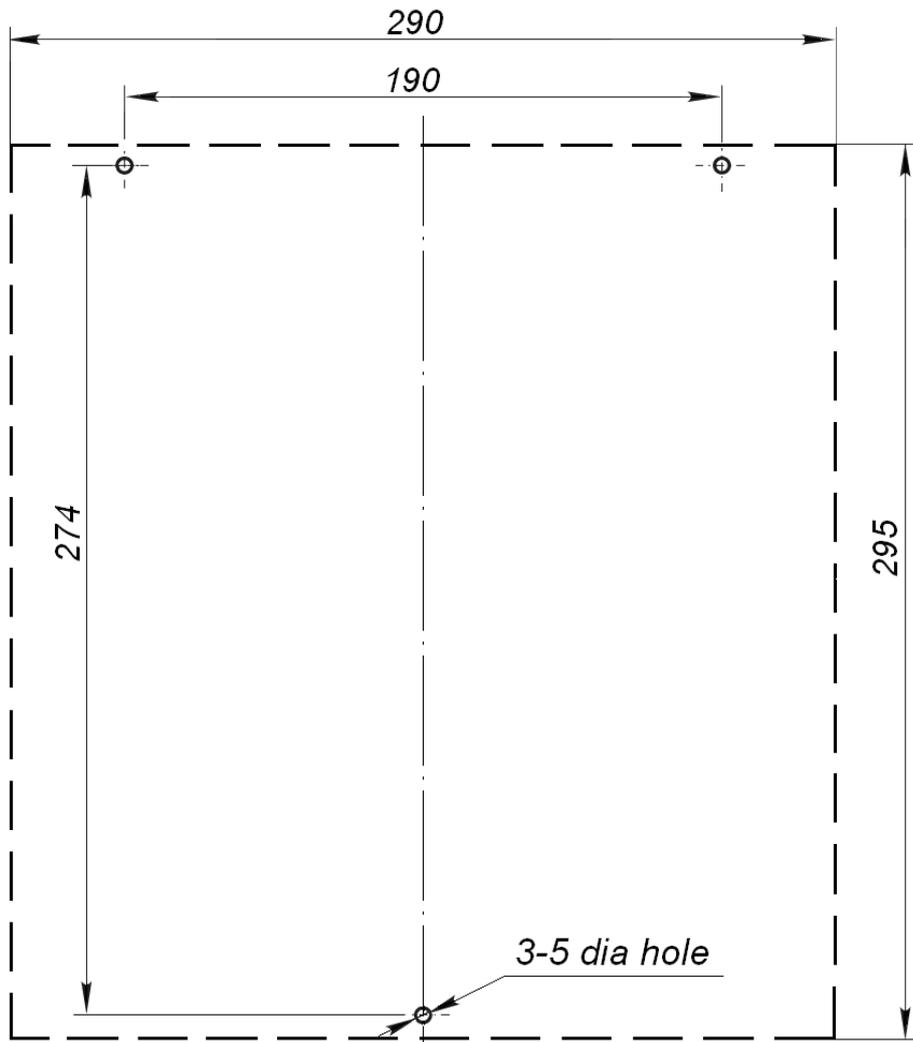

Figure 6 Hole pattern for the CU mounting
5. Take the swing panel (3) out of the transportation box. Mount the swing panel into the coupling fittings (14) of the rotary post (1). Tighten the mounting screws through the coupling fittings' holes with the S=5 hex-nut wrench. Check the swing panel (3) to be properly fixed.
6. Check free rotation of the swing panel. To do so unlock the swing gate with the mechanical release key (7) (sect. 5.4). The swing panel should be able to turn by hand easily in either direction. Lock the swing gate with the key after the check.
8. Mark out the holes for wall mounting of the control unit (8) as shown in Fig. 6. Drill the holes and insert the plastic dowels included in the delivery set. Mount the CU (8) using two screws and fix it with the bottom screw to prevent accidental pulling off.